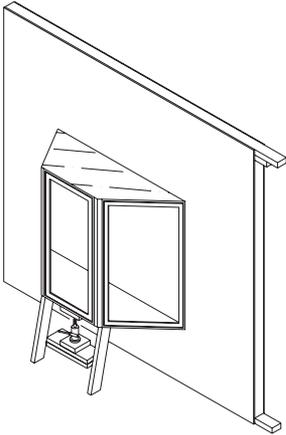

Figure 2
2. Place adequate temporary support (e.g. a sawhorse, 2x4s and/or jack) to hold the unit in place while securing (see figure 2). Position the support under the outer edge of the unit to ensure stability.